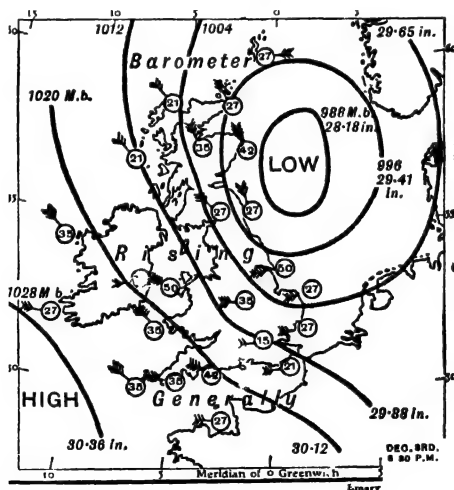

FIG. 39. WEATHER CHART SHOWING A CYCLONE OR LOW PRESSURE AREA.
N.E. Such movements are often regions of low pressure with the pressure increasing outwards (Fig. 39) and winds blow towards the centre of the region but are deviated because of the
Charts are constructed at the Meteorological Office from barometer and wind records from certain stations on land and from ships at sea; on these charts all places of equal pressure are joined by lines called **isobars**. A region of low pressure indicates a **cyclone**, and one of high pressure with the pressure decreasing outwards indicates an **anticyclone**. Generally the former means bad weather and the latter, fine settled weather. From Fig. 39, the forecast would be that the weather was likely to improve since the cyclone was passing and an anticyclone approaching.